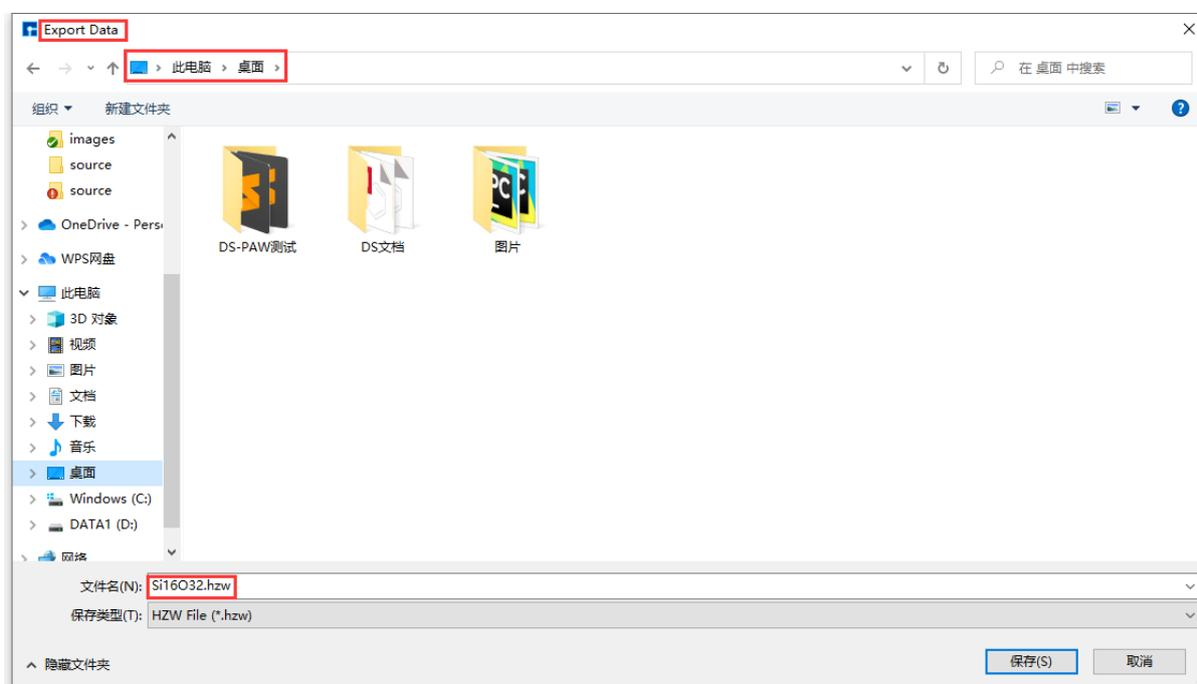

fig. 6.5: Export Structure Files (.hzw, .xyz, .cif) Interface
- – *Export Data* : Clicking this button opens a dialog for exporting structure files (.hzw, .xyz, .cif). Users can select the file format, name the file as needed, and choose a storage location, as shown in fig. 6.5.